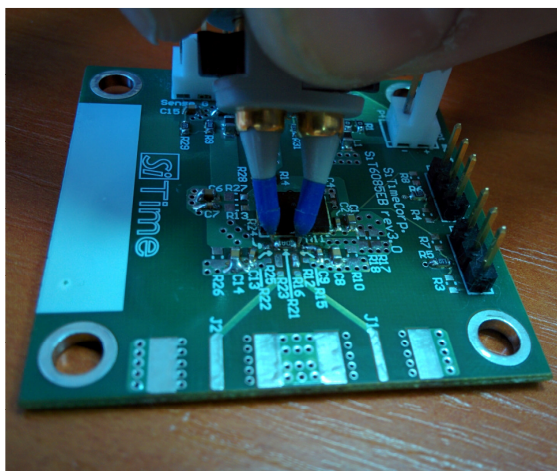
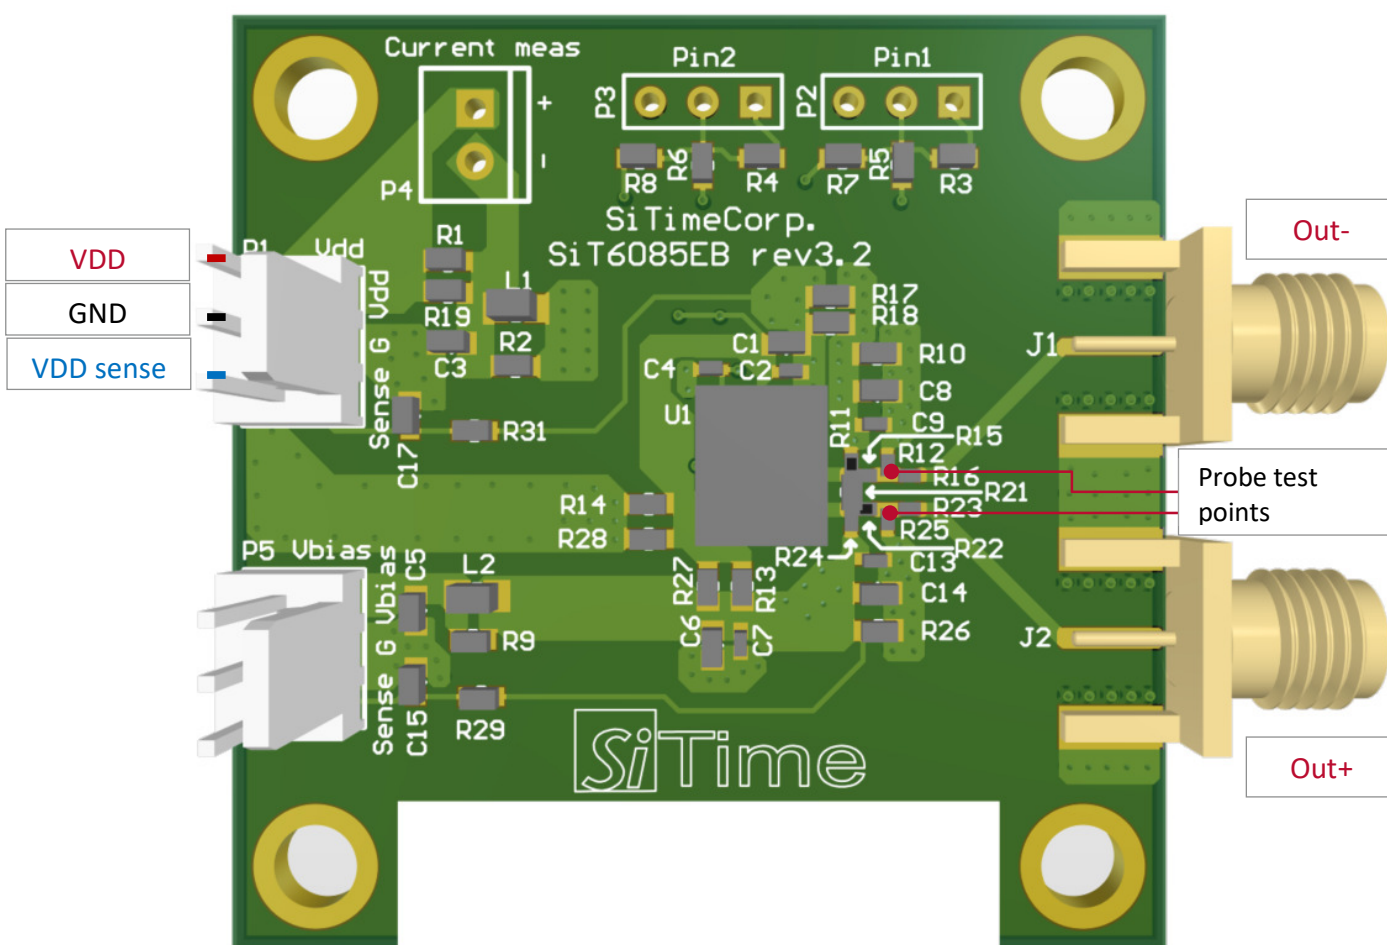

Figure 9. Differential browser (high impedance active probe) on test points for waveform capture on SiT6085EB.
Figure A2: SiT6085EB layout
SiT6085EB can be configured to support three configuration modes including XO/TCXO with output enable (OE), XO in Standby (ST), Spread Disabled (SD), Voltage Control (VC) or Digital Control (DC). The test points for active probe are placed closely to the oscillator output for better signal integrity (see Figure A2 and sections 3.1.1, 3.1.3, 3.1.5, 3.1.7).
Please refer to Figure A2 for test point locations on the SiT6085EB. Please refer to Figure 9 for probing example on the EVB using active probe.